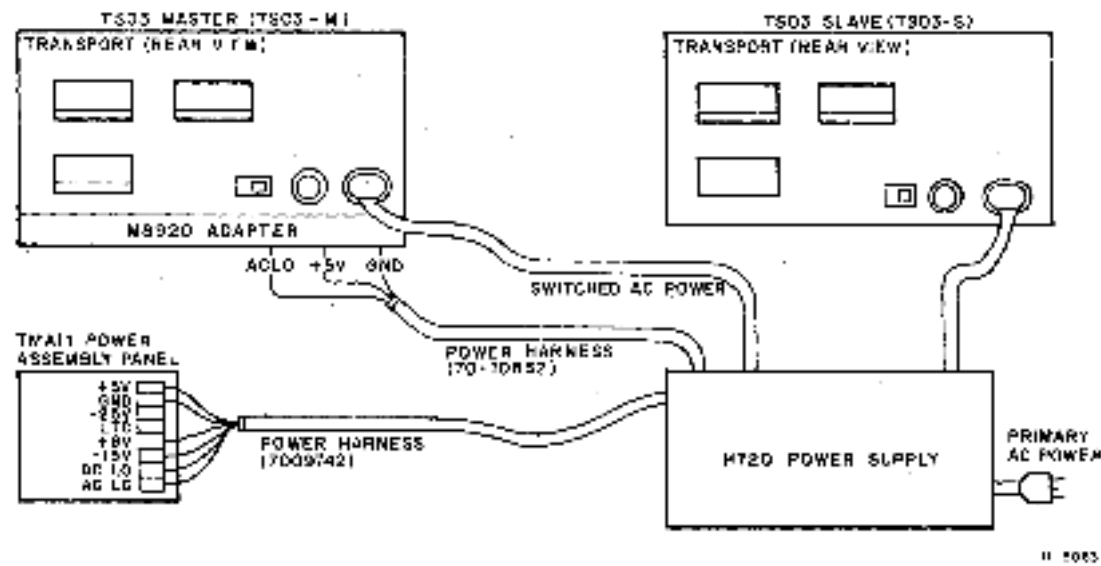

Figure 2-4 Power Connection Diagram
1. Install the power harness (7009742) between the H720 power supply and the TMA11 power end assembly panel in accordance with color coding listed in Table 2-2 (Figure 2-4).